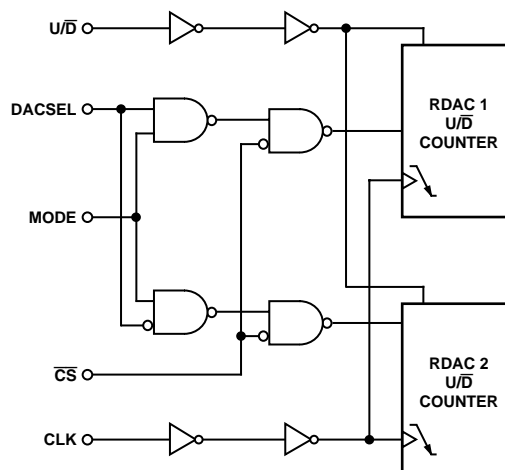

Figure 30. Detailed Digital Logic Interface Circuit
The AD5222 contains a push-button controllable interface. The active inputs are clock (CLK), \overline{CS} and up/down (U/D). While the MODE, and DACSEL pins control common updates or individual updates. The negative-edge sensitive CLK input requires clean transitions to avoid clocking multiple pulses into the internal UP/DOWN counter register, Figure 30. Standard logic families work well. If mechanical switches are used for product evaluation a flip-flop or other suitable means should debounce them. When \overline{CS} is taken active low, the clock begins to increment or decrement the internal up/down counter, dependent upon the state of the U/D control pin. The UP/DOWN counter value (D) starts at 40_H at system power ON. Each new CLK pulse will increment the value of the internal counter by 1 LSB until the full-scale value of $7F_H$ is reached, as long as the U/D pin is logic high. If the U/D pin is taken to logic low, the counter will count down, stopping at code 00_H (zero-scale). Additional clock pulses on the CLK pin are ignored when the wiper is at either the 00_H position or the $7F_H$ position. The detailed digital logic interface circuitry is shown in Figure 30.